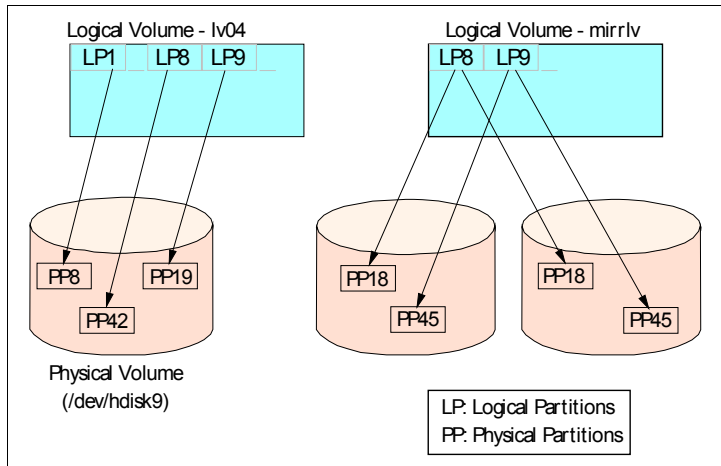

Figure 3-23 Relationships between LP and PP
- ▶ Every physical volume in use belongs to a volume group (VG) unless it is being used as a raw storage device.
- ▶ Each logical volume consists of one or more logical partitions (LPs). Each logical partition corresponds to at least one physical partition (see Figure 3-23). If mirroring is specified for the logical volume, additional physical partitions are allocated to store the additional copies of each logical partition.